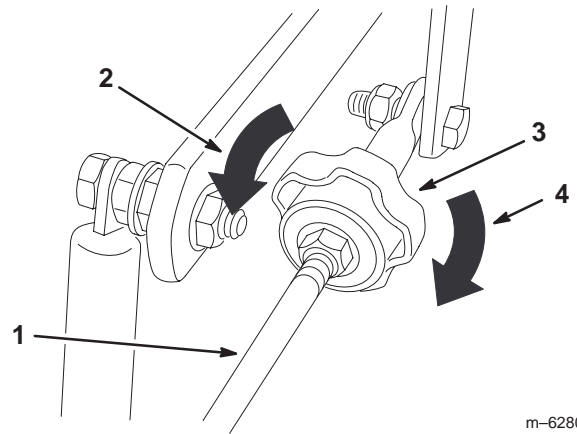

Figure 46
4. To make the machine move to the right, turn the knob toward the right side of the machine; refer to Figure 46.
5. To make the machine move to the left, turn the knob toward the left side of the machine; refer to Figure 46.